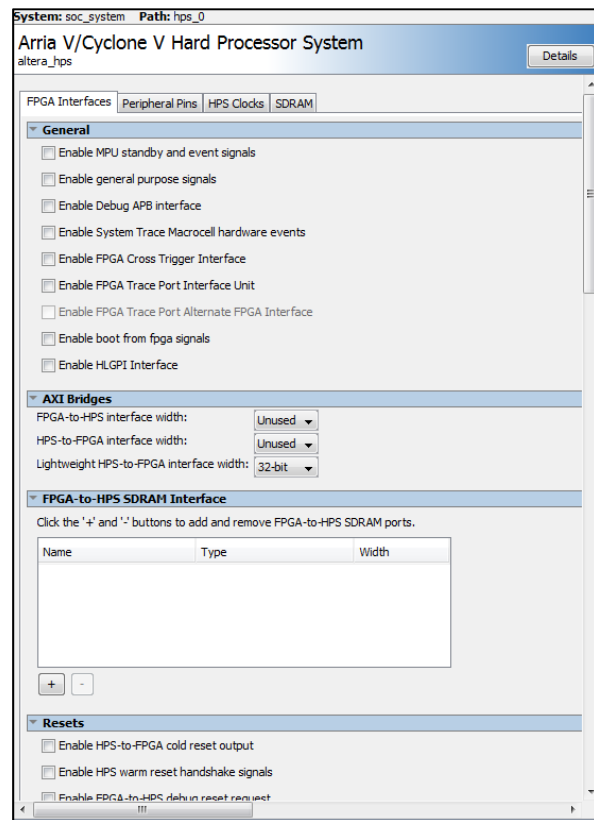

Figure 14 – QSYS Bridge Configuration
- Double-clicking the HPS object will launch the dialog in Figure 14.
- If using the Lightweight bridge, then ensure that that dialog appears as in Figure 14.